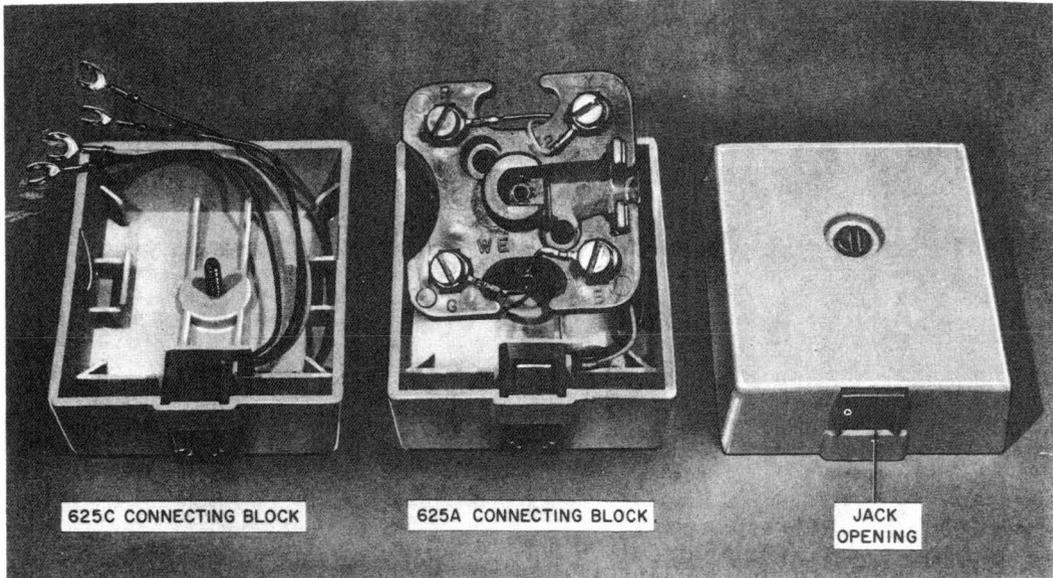

Fig. 1—625A- and 625C-Type Connecting Blocks
- Block, Connecting, 625A (Fig. 1)
- Block, Connecting, 625C (Fig. 1)
2.02 The **625A** connecting block (Fig. 1) is intended for new installations and is surface mounted. It contains a 42A connecting block base assembly which is used to terminate inside wire and spade-tipped leads from the jack in the cover. This connecting block replaces the 42A connecting block and the 549A jack. When mounting the 42A connecting block, leave at least 1/16-inch clearance between the bottom of the cover and the molding, carpet, or floor.
2.04 The **625C** connecting block (Fig. 1) is the same as the 625A connecting block except the 625C does not include the 42A connecting block. The 625C connecting block may be used to convert the 42A connecting block in existing installations to modular installation.